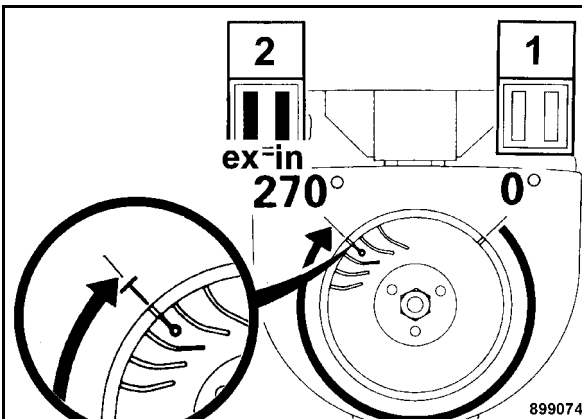

Fig. 93
- Turn the flywheel 270° in clockwise direction (Fig. 93).